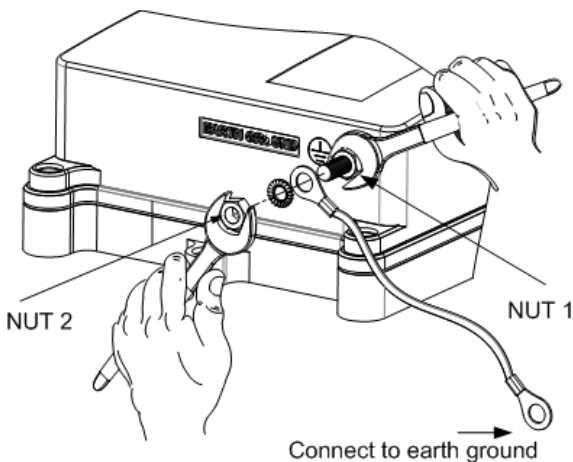

Figure 2
- Connect chassis ground connection to "Earth/Ground" connection at the working area. – as figure 2